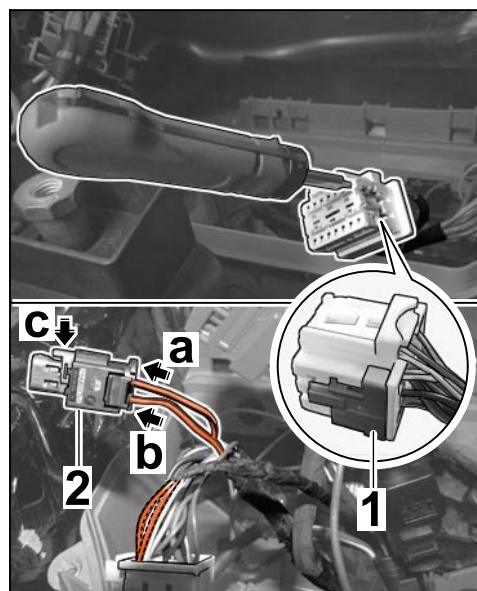

Figure 27
- 4.6.2 Press the OR/BN line out of chamber 13 and insert it into the plug socket ⇒ *Figure 27-2-* of chamber 1 ⇒ *Figure 27-a-*.
Press OR/BK line out of chamber 14 and insert it into chamber 2 of plug socket ⇒ *Figure 27-2-* (⇒ *Figure 27-b-*).
- 4.6.3 Close secondary lock on plug socket ⇒ *Figure 27-2-* (⇒ *Figure 27-c-*).